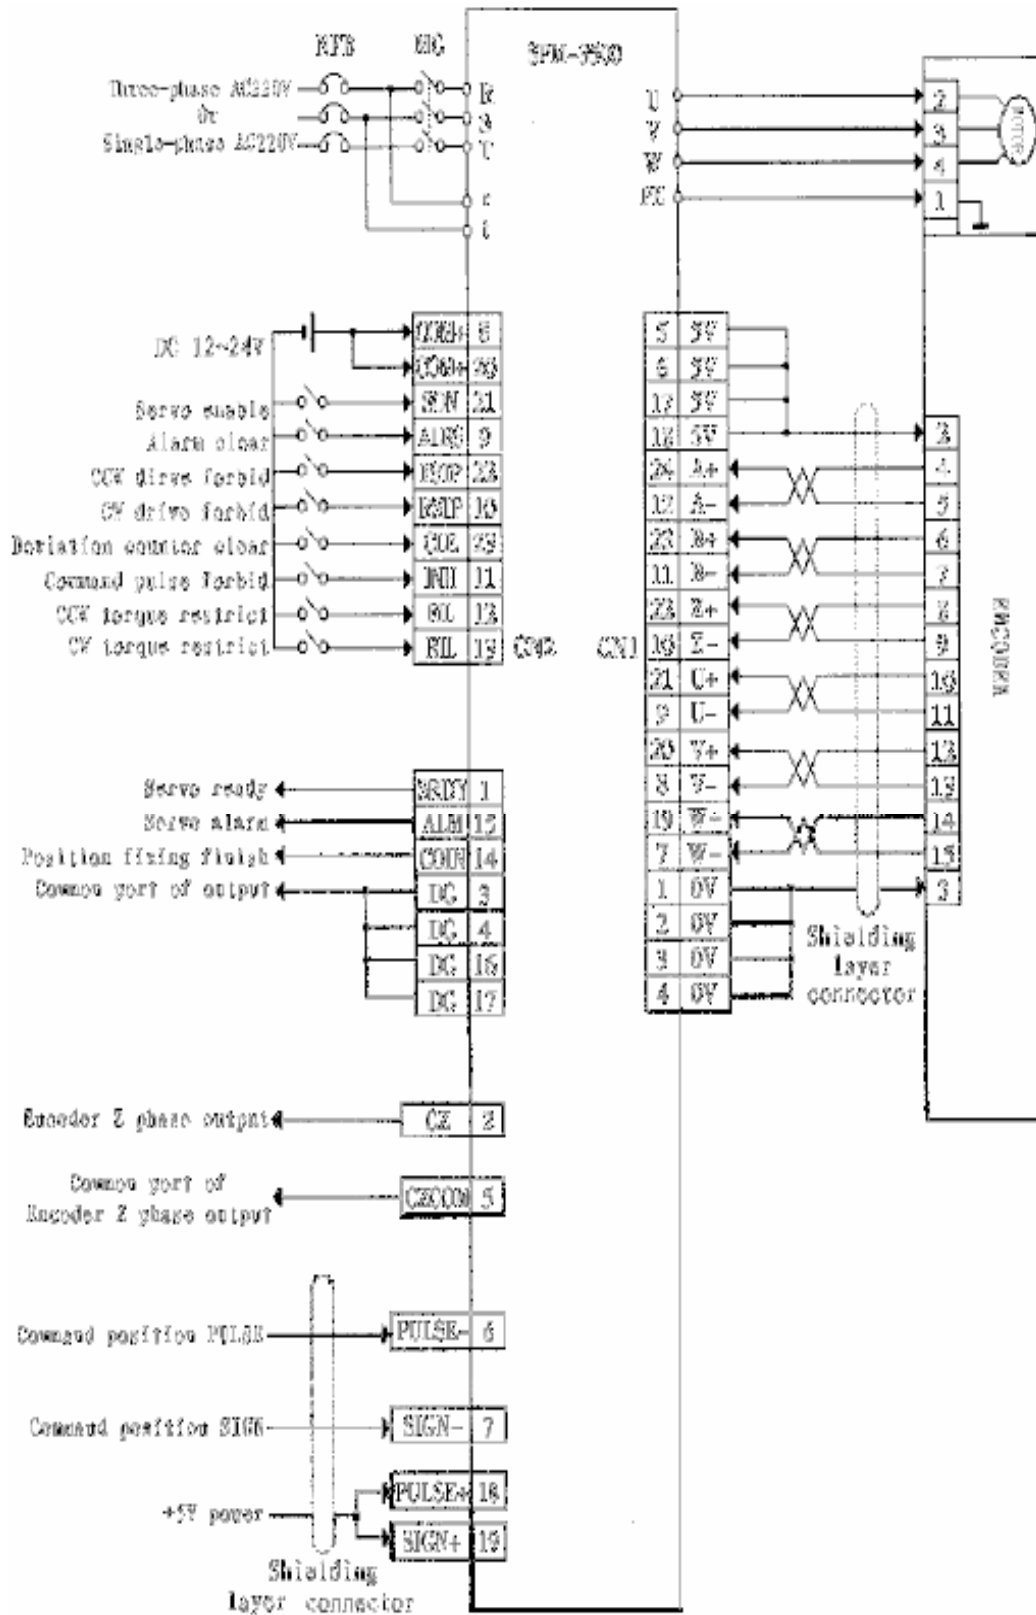

Fig 5.6 The standard wiring for position control mode between the driver and SUQIANG servo motor
- 6) Fig 5.6 shows: The standard wiring for position control mode between the driver and SUQIANG servo motor;